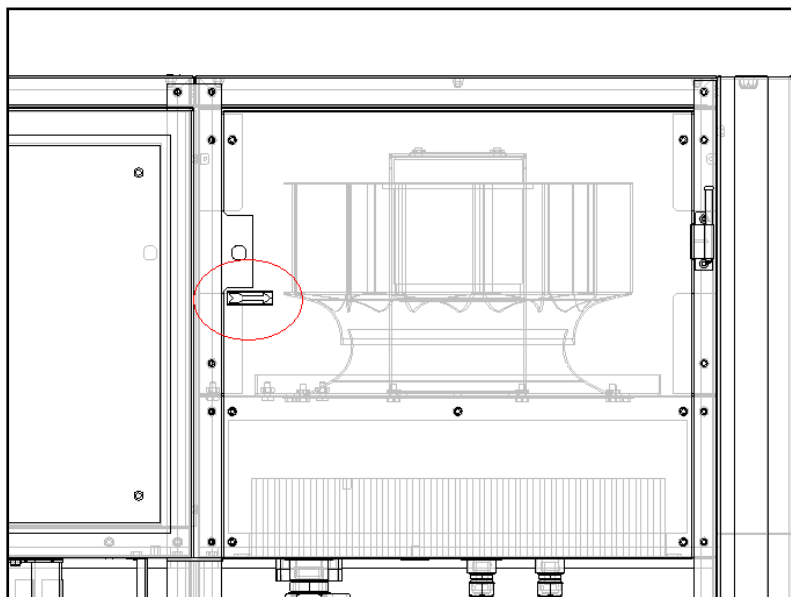

Figure 5.1
5. **Check Rotation** - Press the “Emergency Stop” button within a few seconds after startup and identify the direction of the airend and fan motor rotation(refer to figure 5.1). If the motor rotation is incorrect, for units equipped with a variable speed drive, switch any 2 of the 3 power cables on the bottom of the drive. If Fan rotation is incorrect, switch any 2 of the 3 power cables on the incoming power supply of the fan motor contactor.